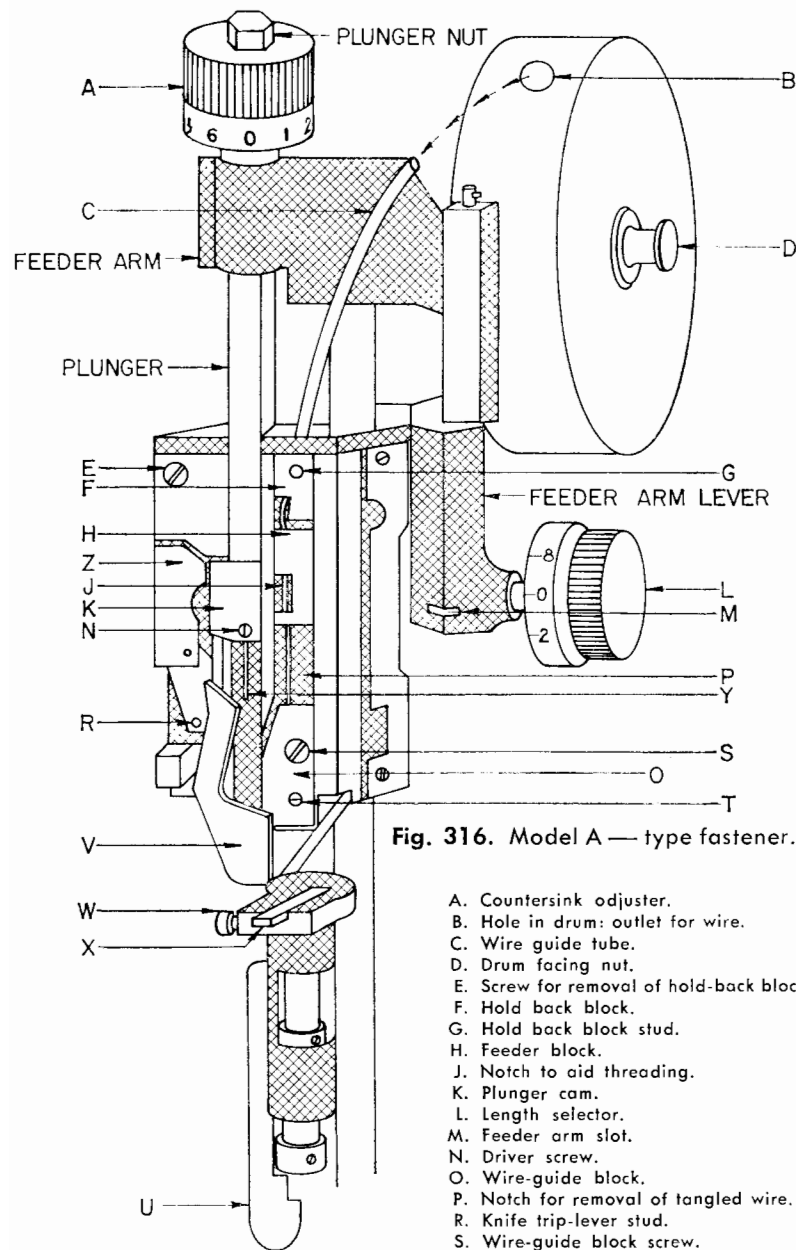

Fig. 316. Model A — type fastener.
clinched, nor will it split delicate wood heels when used to attach top lifts. To attach the fasteners, several machines are available. One typical model will be discussed here to bring out the general characteristics, nomenclature, and operation of this kind of machine (Fig. 316).
Before attempting any work, it would be a good idea to get acquainted with the machine. First try raising and lowering the horning by pulling it up and then releasing it with lever *D*, Figure 317. Next drop the horn, lightly touching the foot pedal, and clip off a fastener. Try a variety of lengths by changing the setting on dial *L* at the right of the machine (Fig. 316). Now raise the horn, insert a few pieces of leather, set dial *L* to the correct length fastener and experiment with setting the fastener below the surface of the leather. This depth can be acquired by setting dial *A*, Figure 316.
3. Pull out the old wire between the feeder block *H* (Fig. 316) and the wire guide block.
The machine will cut the fasteners to any desired length up to and including 1 in. *L* in Figure 316 is the selector knob. Numbers on the rim of this knob indicate eighths of an inch. (Example: when set to number 4, the machine will cut fasteners  $\frac{4}{8}$  in. long, or when set to 5, it will cut fasteners  $\frac{5}{8}$  in. in length, etc.) For best results fasteners should be  $\frac{1}{8}$  in. longer than the total thickness of innersole and outersole. When set at 0, the machine will not make fasteners.
3. Check whether the feeder block, *H*, or hold-back block, *F*, Figure 316, or both, may be worn.
You may set the fasteners as far below the surface as you like or leave them flush with the surface by merely setting knob *A*, at the top of the machine in Figure 316. To set the fasteners flush with the surface, set the dial reading to "0." The higher the number the deeper the setting. Fasteners should be set deep enough so that they will not show on the surface of the finished job. If the countersink setting adjustment should slip or vary at any time, merely tighten the tension nut, *N*, behind and immediately below the countersink dial. Should the fastener heads appear rough, check the driver head, *Y*, for a broken or chipped end.
When fastener heads do not appear neat and smooth, remove and check the lower end of the driver, *Y*, Figure 316, as follows:
counterclockwise until plunger K (Fig. 316) reaches the top of the stroke.
4. The wire tangles at *P*, Figure 316. The knife trip lever *R* has become disengaged. Clear away the tangle and rethread the machine. Engage the trip lever by pushing it to the right.